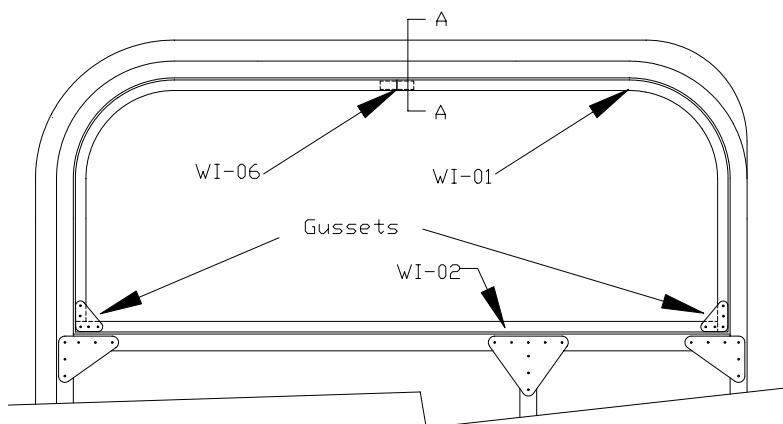

Figure 17.5.2
- 3) Make two gussets to hold/tie the bottom corners of the WI-01 and WI-02 window frames together then rivet the gussets to the frame as shown with RV1410 rivets. Figure 17.5.2